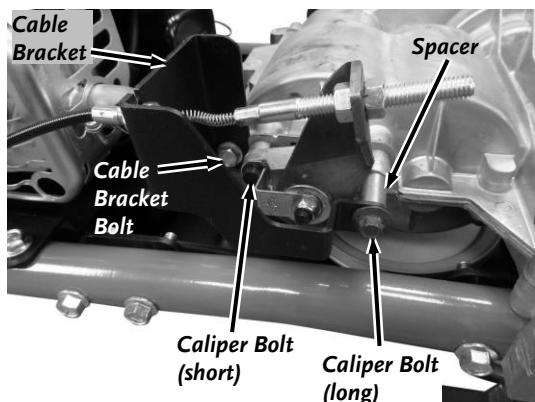

Figure 46
2. Locate the Brake Caliper at the right/front of the machine (**Figure 46**).